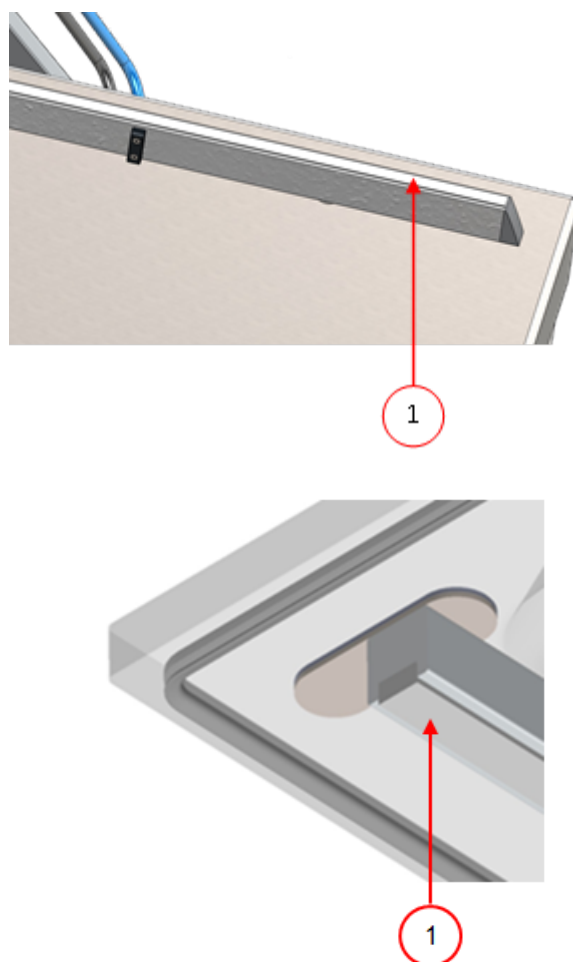

Figure 28: Replacing the Silicone Rubber of the Silicone Holders
1. Pull the old silicone rubber from the holder, see *Figure 28: Replacing the Silicone Rubber of the Silicone Holders* on page 75.